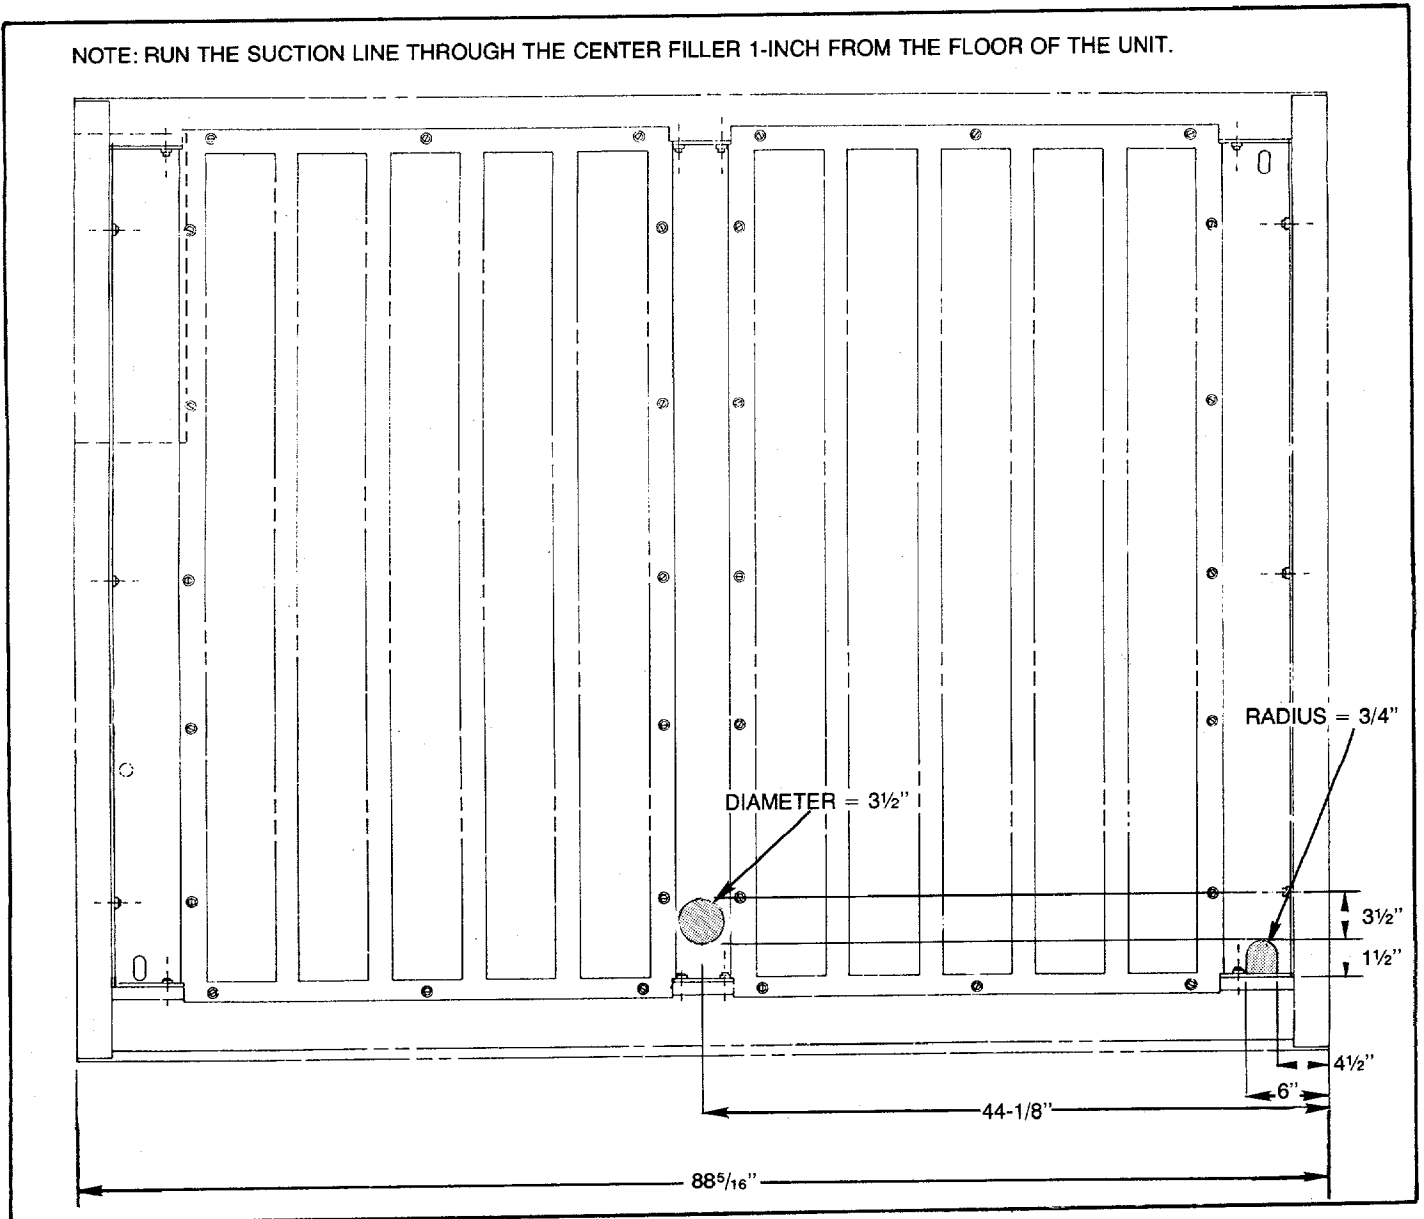

FIGURE 20 - Hole Locations: 20 Through 30-Ton Units
5. Cut holes in the center support and filler post as shown in Figure 20.